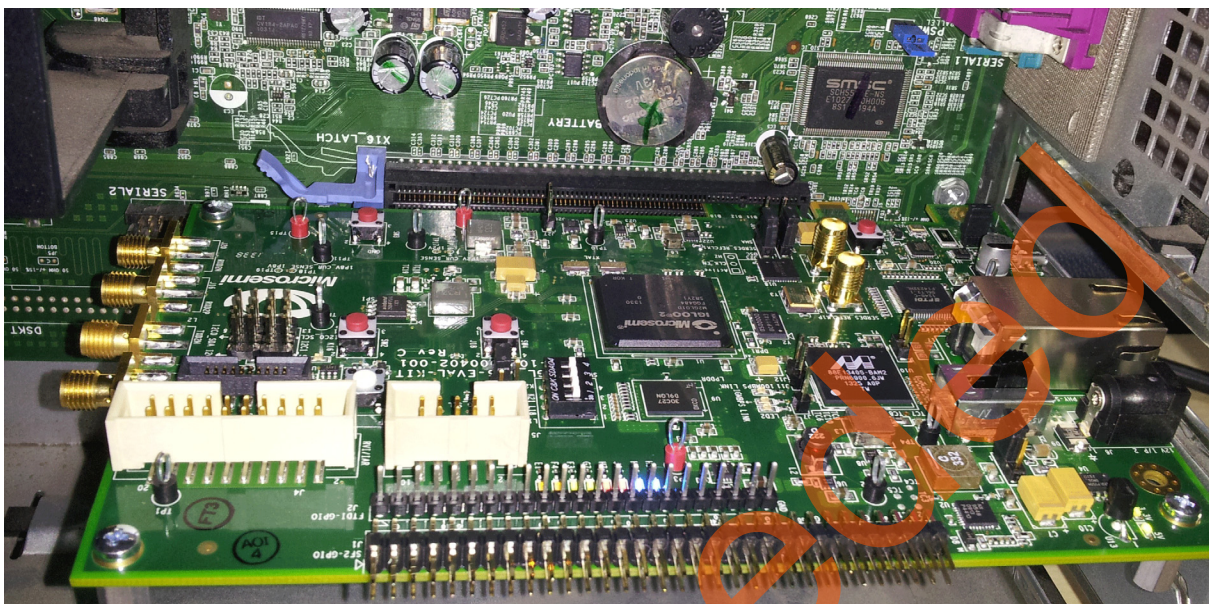

Figure 9 • IGLOO2 Evaluation Kit Setup for Host PC
3. Figure 9 shows the board setup for the Host PC in which IGLOO2 Evaluation Kit board is connected to the Host PC PCIe slot. To connect the IGLOO2 Evaluation Kit board to the laptop using Express card adapter, refer to the "Appendix 2: IGLOO2 Evaluation Kit Board Setup for Laptop" on page 40.